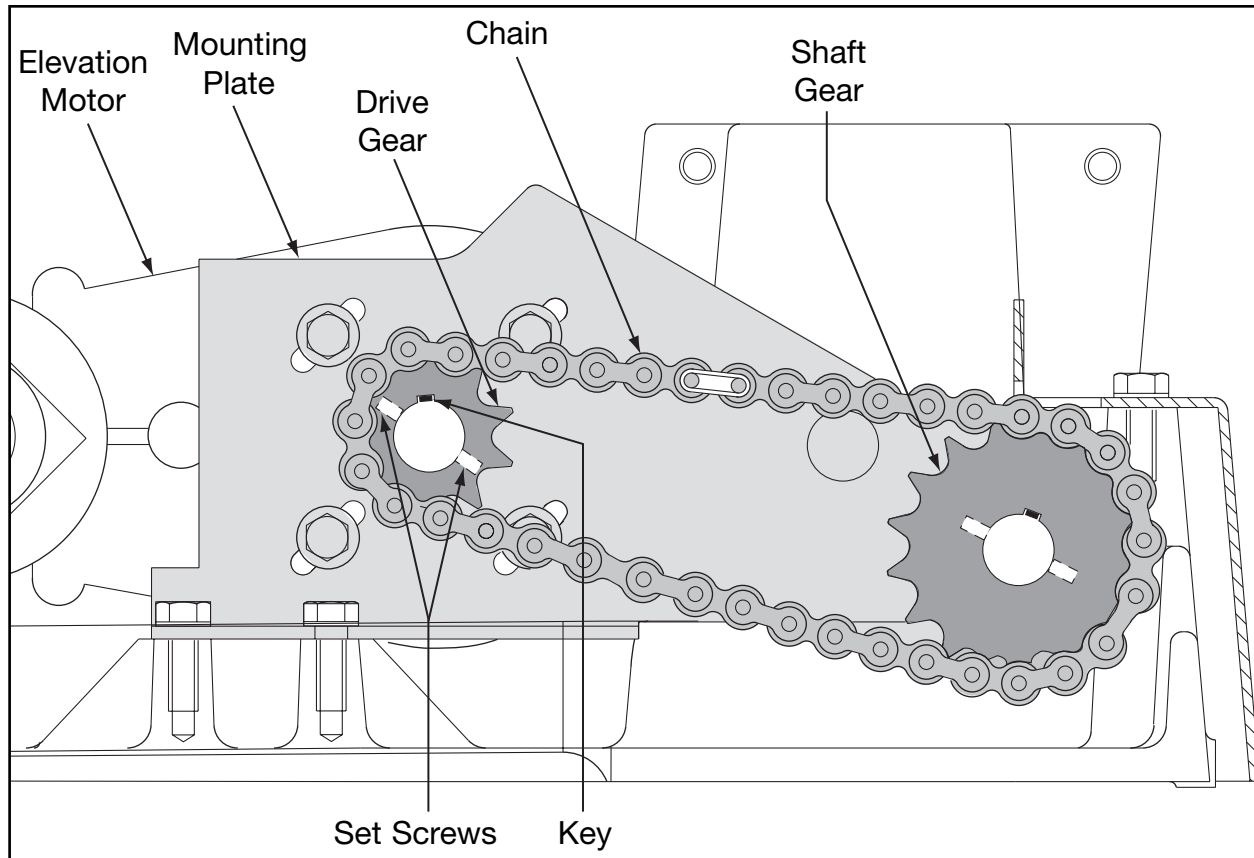

Figure 15
- C. Loosen and remove the two bolts that fasten the mounting plate to the treadmill base. See Figure 15.
- D. Loosen and remove the four bolts that fasten the elevation motor to the mounting plate. See Figure 15.
- E. Slide the motor toward the front of the treadmill to create slack in the chain. Remove the chain from the drive gear. See Figure 15.
**F.** Using an Allen wrench, loosen the two set screws on the drive gear. Slide the drive gear off of the motor shaft. See Figure 15.